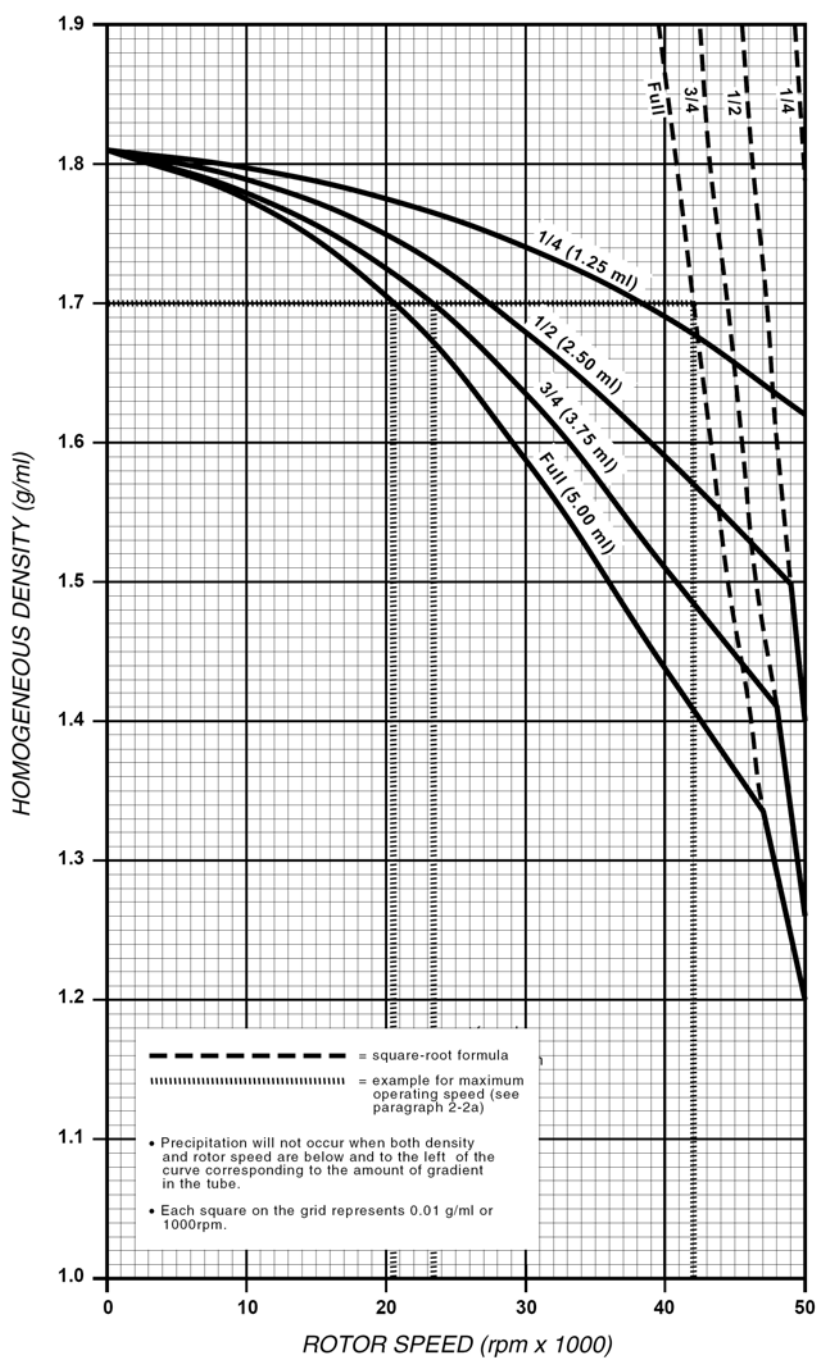
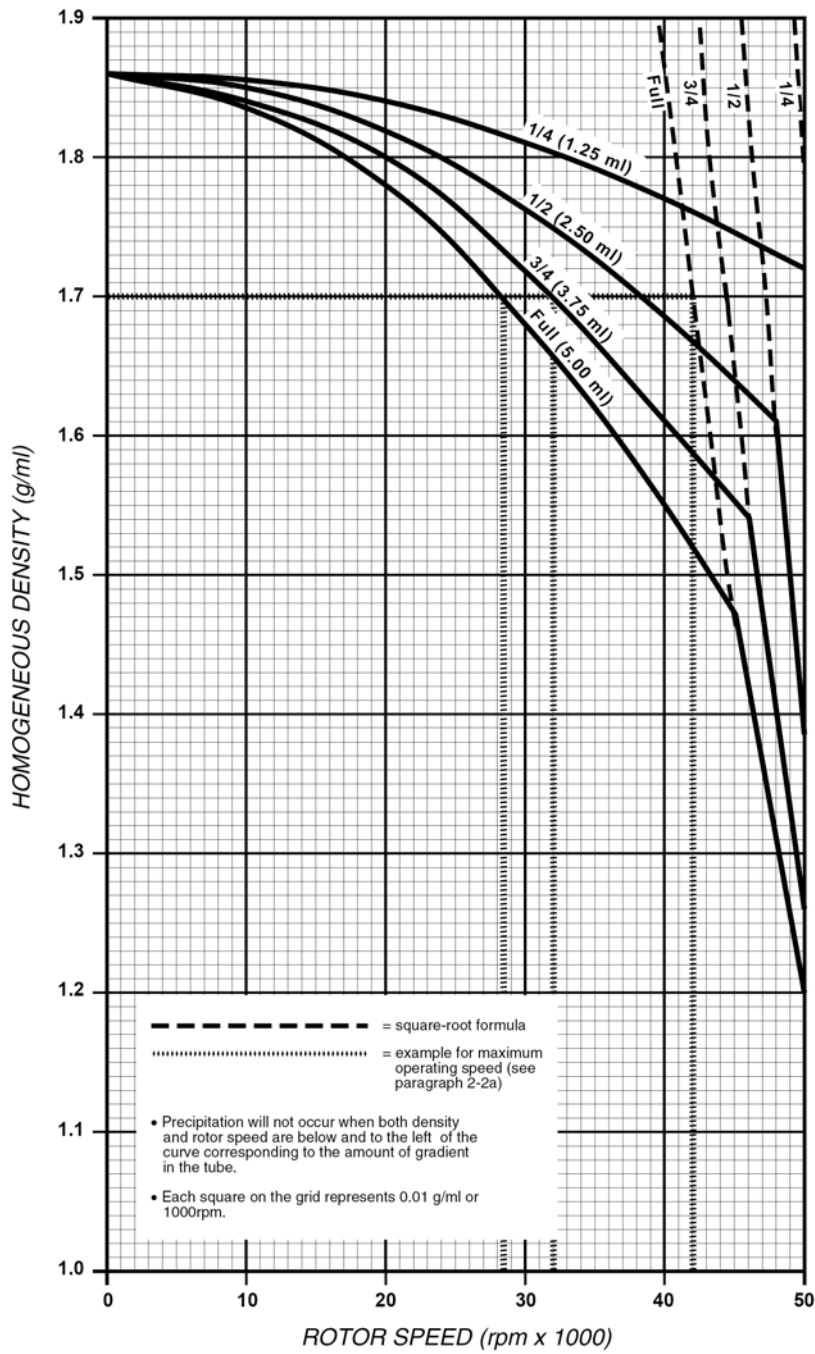
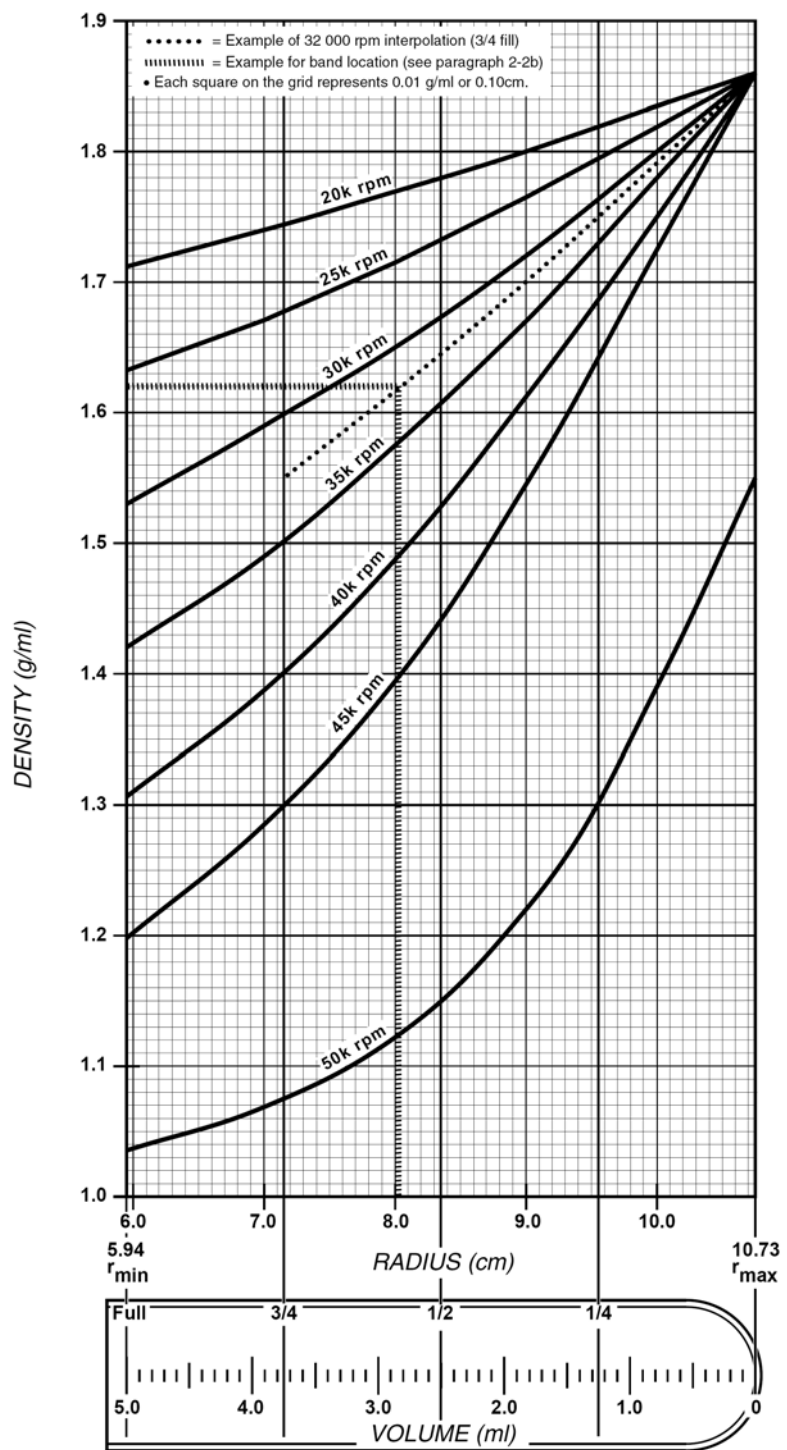
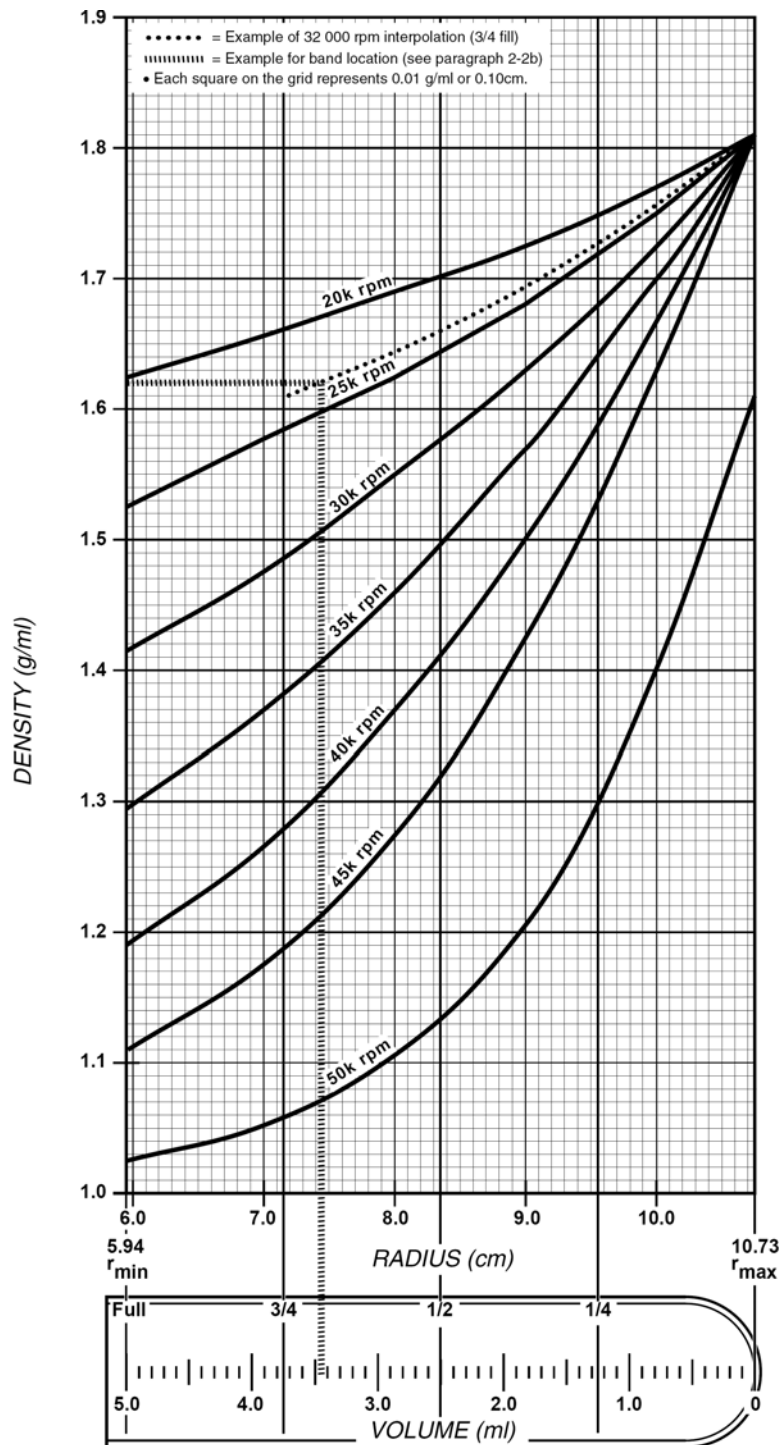

Figure 2-1. CsCl Precipitation Curve, 17 ml Buckets, 5°C
Figure 2-2. CsCl Gradients at Equilibrium, 17 ml Buckets, 5°C
Figure 2-3. CsCl Precipitation Curve, 20 ml Buckets, 5°C
Figure 2-4. CsCl Gradients at Equilibrium, 20 ml Buckets, 5°C
When solid, crystalline CsCl forms, it places a density of 4 g/ml at the bottom of each bucket. This density is dangerously high and can cause the rotor to fail, with subsequent sample loss. Therefore, cesium chloride solutions must be run at reduced speeds to avoid this precipitation. The allowable speed is determined by the average density of the CsCl solution and the run temperature. Saturation limits of CsCl in aqueous solutions are temperature dependent. The solubility limit of 1.86 g/ml at 25°C becomes 1.81 g/ml at 5°C. Figures 2-1 and 2-2 should be used to determine the maximum operating speed. Curves are given for specific average densities and various percentage fills at 5°C and 25°C that will prevent both precipitation and excessive hydraulic pressure.
Also, figures 2-1 (5°C) and 2-2 (25°C) include curves that show the standard speed (square root) reductions to avoid excessive hydraulic pressure only. The standard, square-root reduction formula cannot be used when precipitation of CsCl must be considered. For example, standard speed reduction would allow you to run a full tube of solution with a homogeneous density of 1.70 g/ml at 42 000 rpm at both the 5°C and 25°C temperature ranges. The graphs show that the highest speed you can run a cesium chloride solution of this density (1.70 g/ml) is 20 500 rpm at 5°C and 28 300 rpm at 25°C for a full tube of solution. Similarly, if you were to run a cesium chloride solution with a homogeneous density of 1.70 g/ml in a 3/4 filled tube, the highest speed you can run is 23 500 rpm at 5°C or 32 000 rpm at 25°C.
The curves in figures 2-3 (5°C) and 2-4 (25°C) show the gradient shape at equilibrium for tubes filled with a CsCl solution using the homogeneous density and speeds selected from figures 2-1 and 2-2. The shape of the gradient produced in a partially-filled tube can be determined by using lines 3/4, 1/2 and 1/4 fills. For example, figure 2-1 indicates that a 3/4-filled tube with a 1.70 g/ml homogeneous CsCl solution cannot be run any faster than 23 300 rpm at 5°C. Figure 2-3 shows the gradient profile of this tube, 1.61 g/ml at the meniscus to 1.81 g/ml at the bottom of the tube. The shape of the gradient curve in figure 2-3 can be interpolated between the 20 000 rpm curve and the 25 000 rpm curve. Particle locations can be determined using the particle density and the gradient shape curves. For example, to locate a band of particles having a specific density of 1.62 g/ml in 3/4-filled tube run at 23 300 rpm at 5°C, the particles will band 0.3 ml below the 3/4-fill line of the tube (refer to figure 2-3). Similarly, figure 2-2 shows the same solution in a 3/4-filled tube cannot be run as faster than 32 000 rpm at 25°C. Figure 2-4 shows the gradient profile of this tube, 1.56 g/ml at the meniscus to 1.86 g/ml at the bottom of the tube. The shape of the gradient curve in figure 2-4 can be interpolated between the 30 000 rpm curve and the 35 000 rpm curve. To locate a band of particles having a specific density of 1.62 g/ml in a 3/4-filled tube run at 32 000 rpm at 25°C, the particles will band just below the 3.0 ml line or 0.9 ml from the 3/4-fill line of the tube (refer to figure 2-4).
- when using less than a full complement of six buckets, the rotor can be operated at its maximum allowable speed with two, three, or four samples, provided opposing pairs of buckets are positioned as shown in figure 2-3. Empty buckets must be placed in the remaining positions.